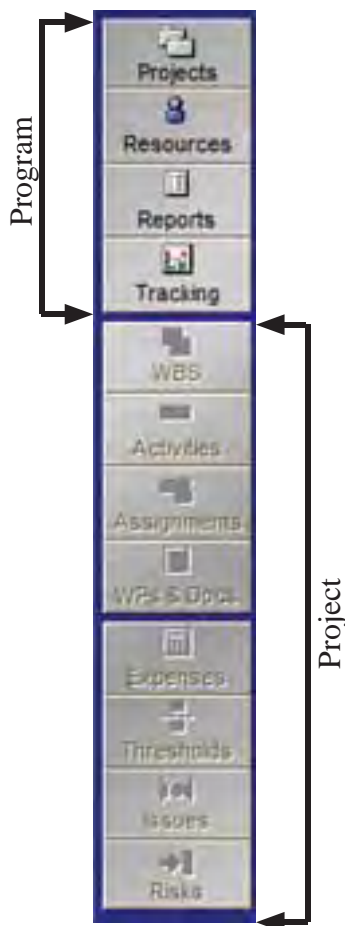

Figure 4-4 Directory Bar
**Directory Bar**—along the left side of the window, has a total of twelve buttons. Each button opens a new window. The first four buttons open windows with information at the program level. The bottom eight buttons open windows with project level information, Figure 4-4.